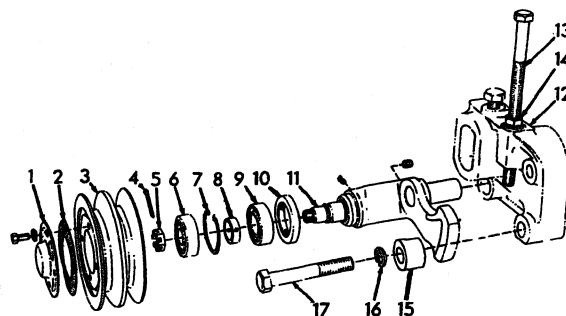

Fig. 10 — Fan Belt Tightener Details
- f. Remove oil seal (9) and rear snap ring (8) and drive or press ball bearing (7) from pulley (5).
2. FAN BELT TIGHTENER REMOVAL, DISASSEMBLY, AND INSPECTION (MOTOR GRADERS) Fig. 10
- b. Remove locking clamp capscrew (17), lockwasher (16), and locking clamp (15).
- c. Pull fan belt tightener assembly from fan mounting bracket (12).